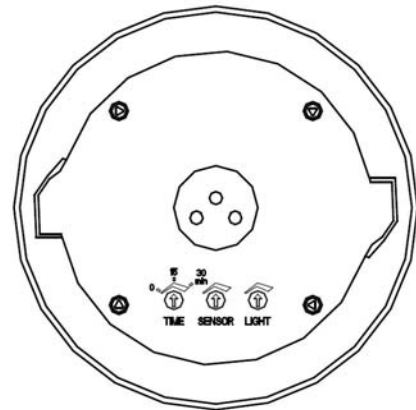

Fig 4
5. Find the back of sensor (refer to Fig 4).Set Time-delay, Light and Sensor as detailed in the SENSOR ADJUSTMENT & PROGRAMMING section.